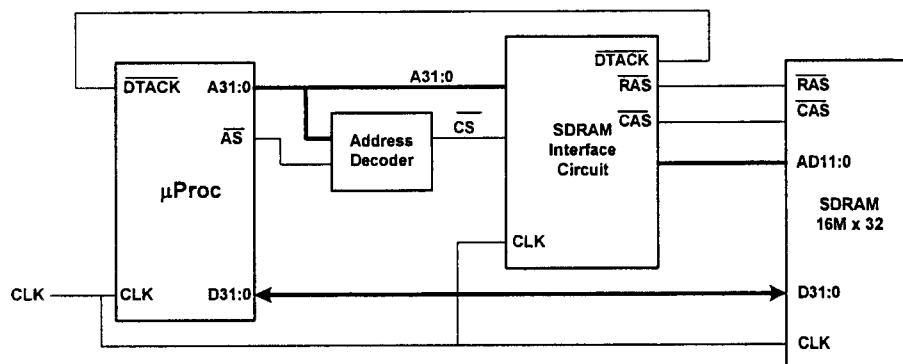
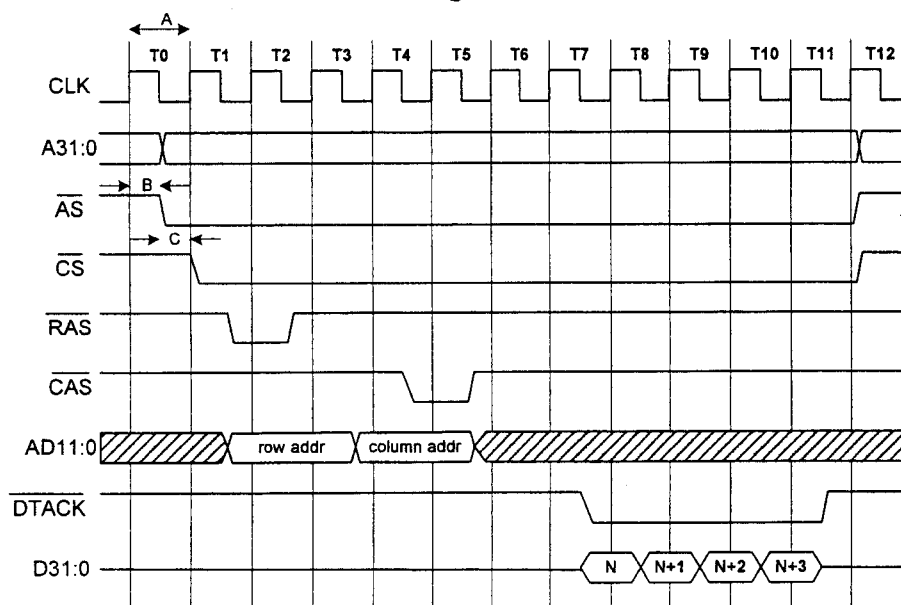

Figure 6.1
Figure 6.2
6. Figure 6.1 shows a microprocessor connected to a 16M x 32 bit SDRAM module through an address decoder and an interface circuit. The timing of the microprocessor and the SDRAM for reading a burst of four memory words is shown in Figure 6.2. The address bus  $A_{31:0}$  becomes valid and the address strobe signal  $\overline{AS}$  is asserted at time B after the rising edge of the clock signal  $CLK$  during the clock cycle  $T_0$ . The period of the clock is A. At time C after  $\overline{AS}$  is asserted, the address decoder circuit produces a chip select signal  $\overline{CS}$ , which is asserted low for addresses in the range  $\$00000000$  to  $\$00FFFFFF$  provided that  $\overline{AS}$  is also low. The row address strobe signal  $\overline{RAS}$  and the column address strobe signal  $\overline{CAS}$  are asserted by the SDRAM interface circuit for one clock cycle on the falling edge of the clock during  $T_1$  and  $T_4$  respectively.